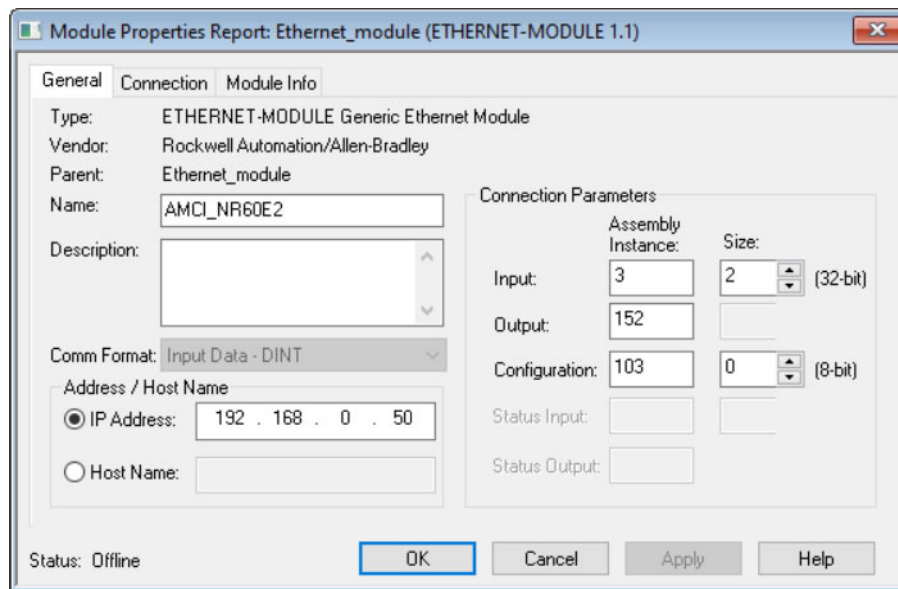

Figure T5.3 Sample NR60E2 Configuration Screen
- 6) Set the following parameters in the Module Properties window. All parameters not listed here are optional. Figure T5.3 shows a completed screen.